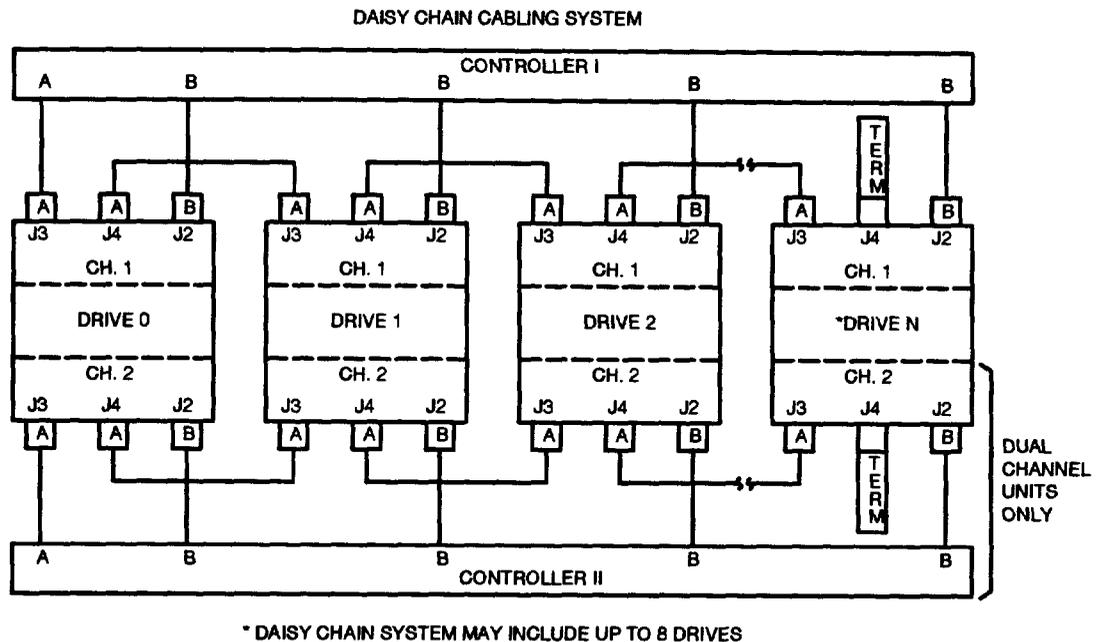

Figure 6. Daisy Chain Cabling System
2.18 All signals between the control unit and the disk drives are sent over interface lines provided by two separate I/O cables. These lines are contained in either the "A" (address/control) cable or the "B" (read/write) cable. The "A" and "B" cables are commonly referred to as the control and data cables, respectively. The "A" cable connects to all disk drives in a daisy-chain manner, while individual "B" cables connect the DFC file controller to each drive (Figure 6). Signals between the disk drives and the DFC are carried over twisted pair leads driven by differential line drivers.